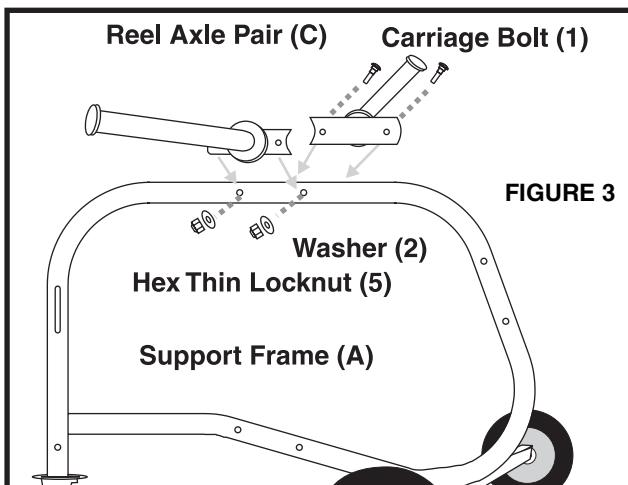

FIGURE 3
4 Attach the Reel Axle Pair #1 (C) to the top of the Support Frame (A) using the 3/8 x 16 x 2-3/8" Carriage Bolts (1), 3/8 x 1" Flat Washers (2) and 3/8 x 16 Nylon-Insert Locknuts Hex Thin (5) as shown in Figure 3.